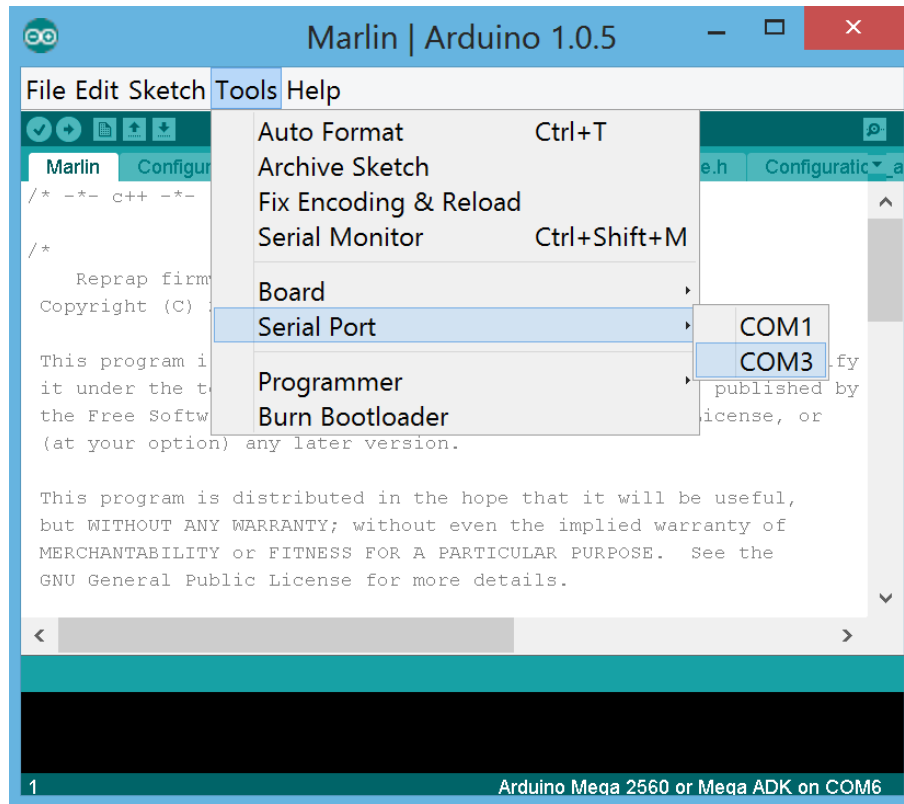

Figure 2.16: Select the serial port of Artifex 2 electronics
- Select “Tools → Serial Port → COM3”. (Figure 2.16)